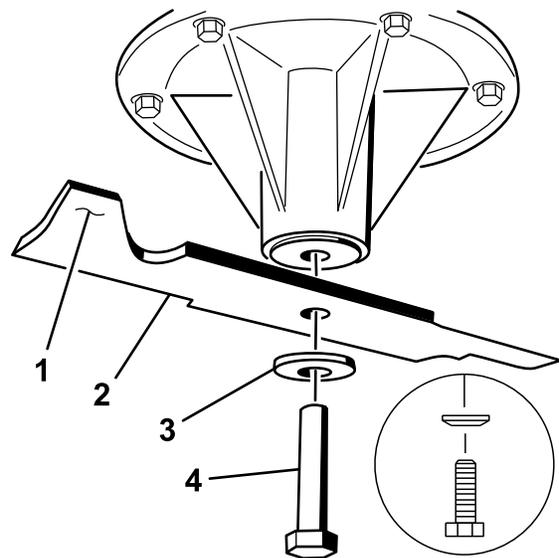

Figure 94
2. Remove the blade bolt, the curved washer, and the blade from the spindle shaft (Figure 94).